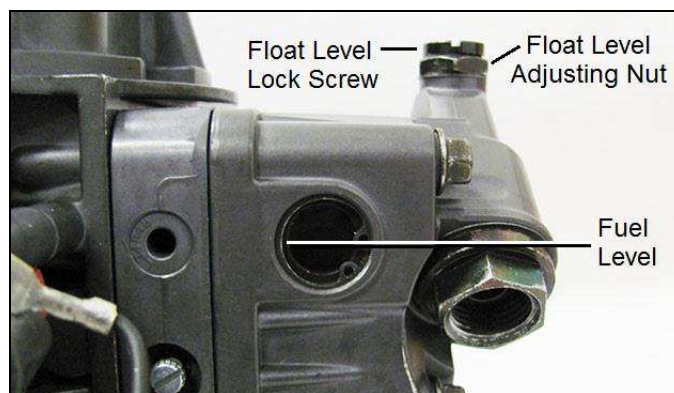

Figure 7
- Observe the sight glass for the fuel level. If none is seen, the level is too low. If it is higher than the middle of the sight window, it is too high. **NOTE:** A properly set float level will have the fuel level located at the middle or slightly below the middle of the sight window, as shown by the line in **Figure 7**.